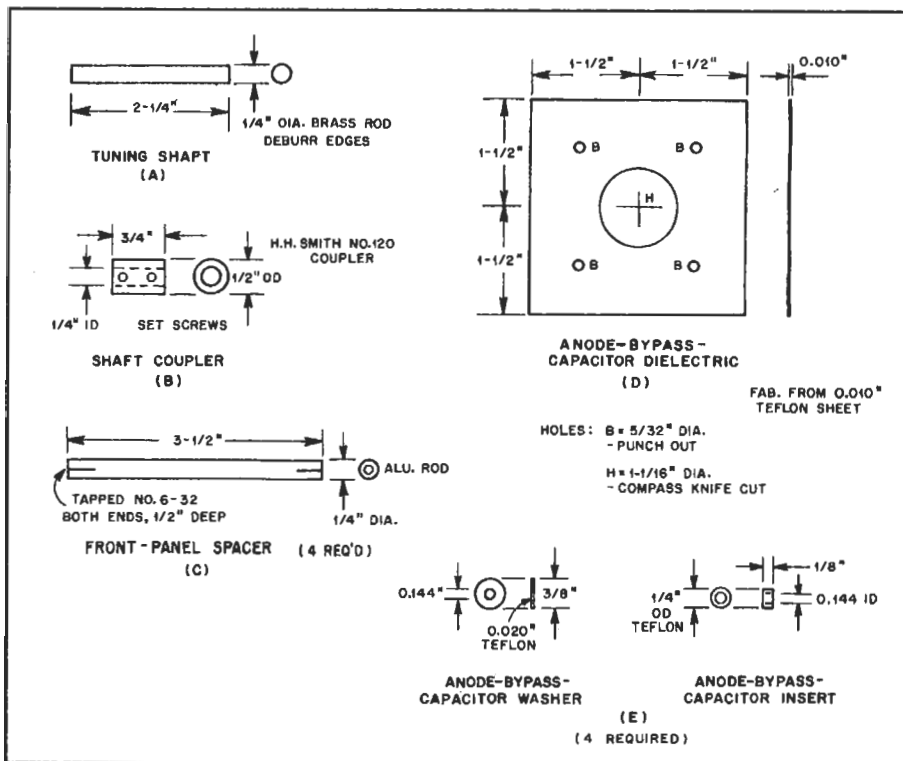

Fig 12—Miscellaneous parts necessary to complete the amplifier.
Fig. 12 shows the remaining parts. The tuning shaft (A) is made from a piece of 1/4-inch brass rod. A coupler (B) to connect the tuning shaft to the anode tuner may be purchased or made. This also applies to the front-panel spacers (C). The Teflon dielectric for the anode bypass capacitor (D) is made from 0.010-inch-thick Teflon sheet. Use the template to locate holes B and H. Teflon washers and inserts (F) are used to insulate the mounting hardware for the anode bypass capacitor from the chassis. The inserts are made from 1/4-inch-OD Teflon rod. The washers are made from Teflon sheet. Sharpen a piece of 3/8-inch aluminum tubing and chuck it up in a drill press. This tool will cut neat, round washers from the sheet.